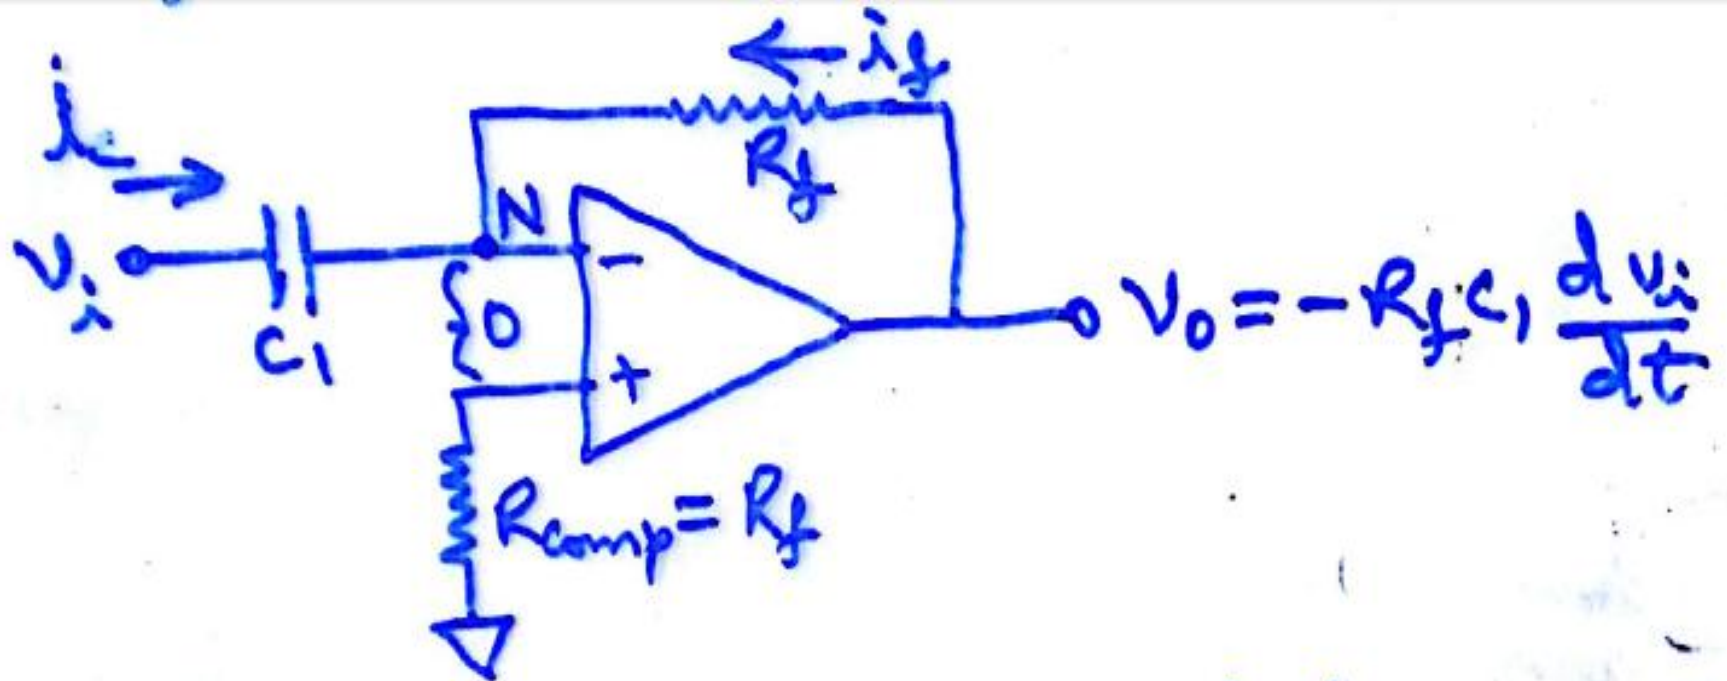

Fig 4.21(a) op-amp differentiator
- A differentiator is a circuit in which the output waveform is the derivative of input waveform. A differentiator circuit is shown in the figure 4.21(a).